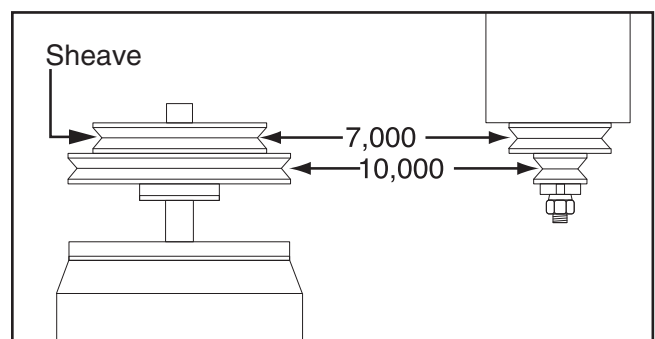

Figure 35. Speed change belt positions.
3. Move the V-belt to a sheave on the motor and spindle pulleys to select the desired speed (**see Figure 35**.)